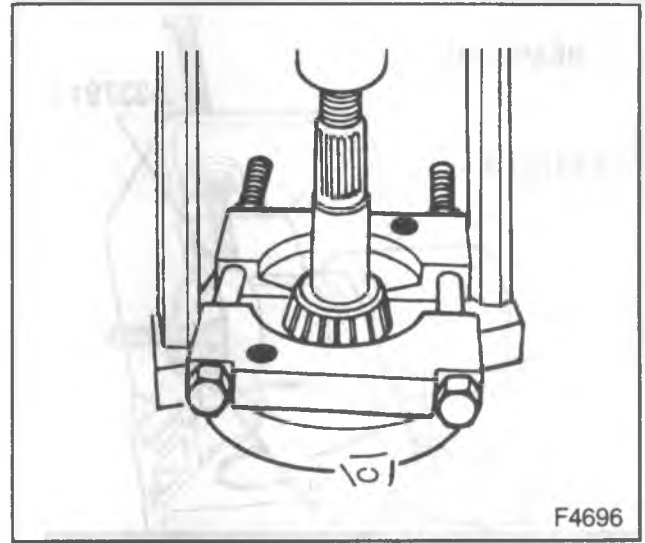
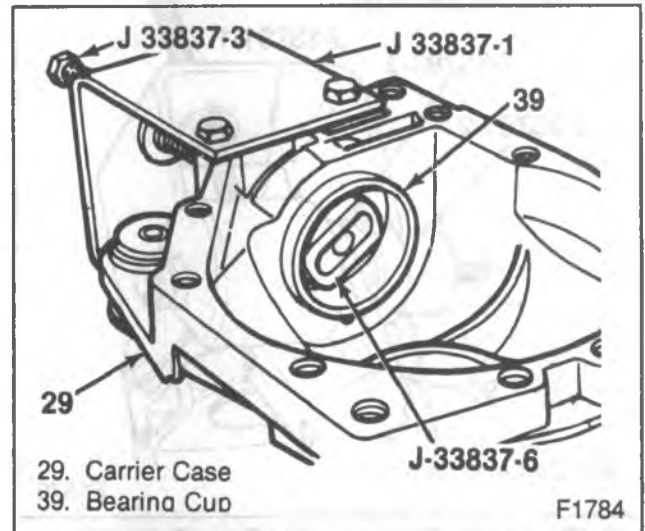
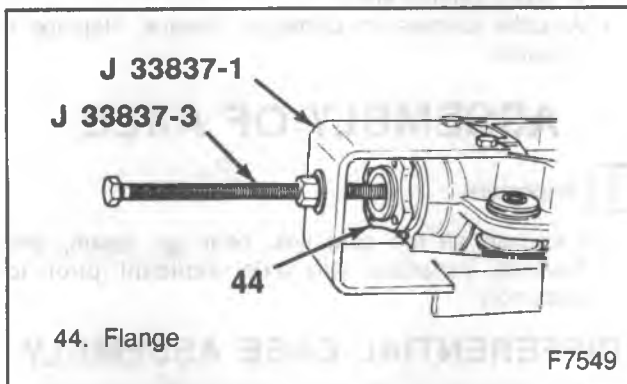
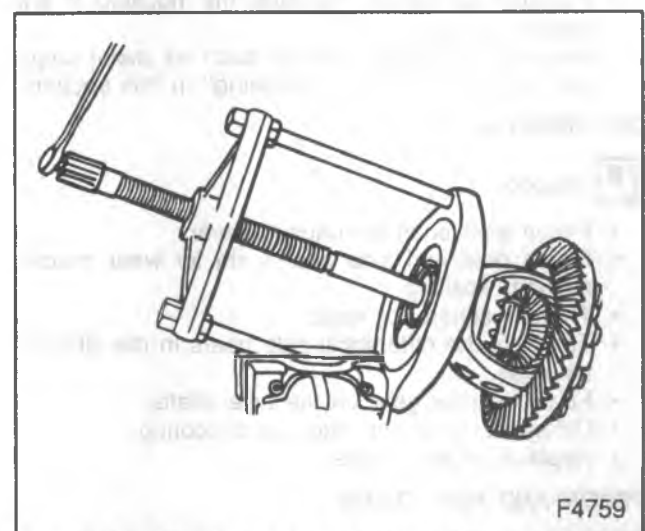

Figure 11—Removing the Pinion Bearing
Figure 12—Removing the Inner Pinion Bearing Cup
Figure 10—Removing the Pinion Flange
Figure 13—Removing the Differential Side Bearings
- Mount the left carrier case half in J 33837-1 (figure 10).
15. Flange (44) and deflector (43) using J 33837-1 and J 33837-3 (figure 10).
16. Pinion (37), with spacer (40), pinion bearing (39) and shim (38).
17. Spacer (40) from the pinion.
18. Bearing (39) from the pinion. Use J 22912-01 and a press (figure 11).
19. Shim (38).
20. Bearing and cup (41) and seal (42), using J 33837-1, J 33837-3 and J 33837-6.
21. Inner bearing cup by pushing it out using J 33837-1, J 33837-3 and J 33837-6 (figure 12).
22. Bolt (36) and shaft (52) from the differential case (35).
23. Differential pinion gears (56) and thrust washers (55).
24. Side gears (54) and thrust washers (53).
25. Bolts (34).
26. Ring gear (37).
27. Side bearings (33), using J 22912-01 (31) (figure 13).